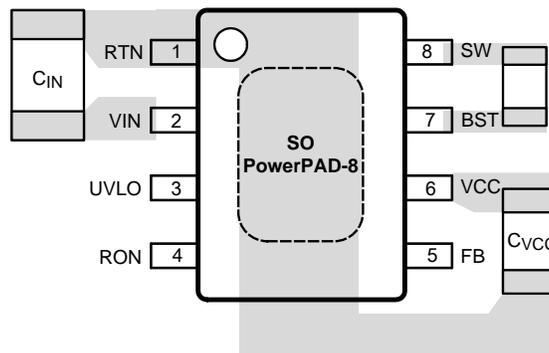

Figure 12. Placement of Bypass Capacitors
- C_{IN} : The loop consisting of input capacitor (C_{IN}), V_{IN} pin, and RTN pin carries switching currents. Therefore the input capacitor should be placed close to the IC, directly across V_{IN} and RTN pins and the connections to these two pins should be direct to minimize the loop area. In general it is not possible to accommodate all of input capacitance near the IC. A good practice is to use a $0.1\mu\text{F}$ or $0.47\mu\text{F}$ capacitor directly across the V_{IN} and RTN pins close to the IC, and the remaining bulk capacitor as close as possible (Refer to Figure 12 Placement of Bypass Capacitors).
- C_{VCC} and C_{BST} : The V_{CC} and bootstrap (BST) bypass capacitors supply switching currents to the high and low side gate drivers. These two capacitors should also be placed as close to the IC as possible, and the connecting trace lengths and loop area should be minimized (See Figure 12 Placement of Bypass Capacitors).